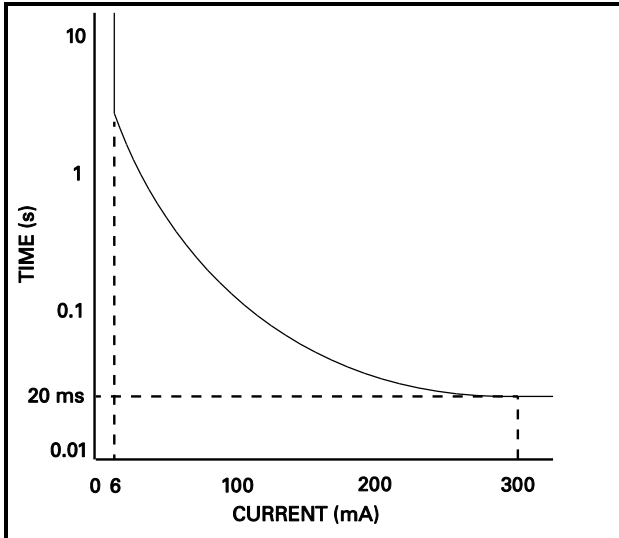
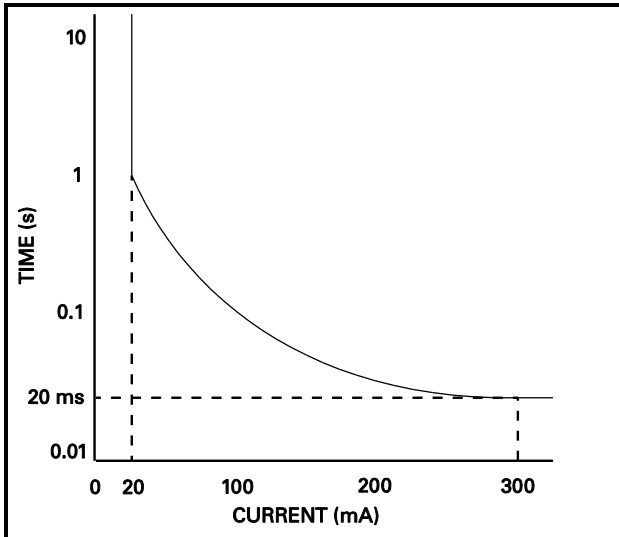

FIGURE 14. Class-A GFCI Curve.
FIGURE 15. Class-C and -D GFCI Curve.
Fig. 14 shows the Class-A GFCI maximum-trip-time-versus-current curve defined by UL 943 (with the above formula); UL943 also defines a limit to the formula, with a minimum required trip time (or fastest trip speed) of 20 ms, which occurs at about 300 mA of ground-fault current (I) per the formula. Class C and D GFCI's must operate within this same curve, except that their operating threshold is 15 to 20 mA (non-adjustable). See Fig. 15. The SB6100 EFGPDs described in this manual also